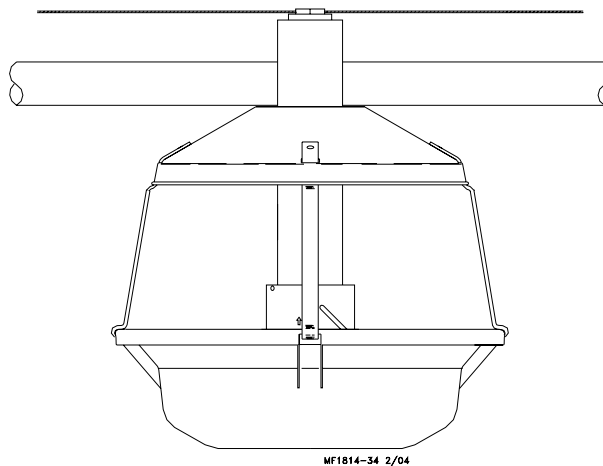

Figure 22. Install Feeders on Tubes
For feeder lines over 350 feet (106 m), install a 2985 Cable Hook between the mounting bolt and Power Winch frame, as shown in Figure 22.
- Rotate the feeder Tube so that the tab at the outlet hole will pass through the notch in the Drop Tube. Rotate the tube 180 degrees to lock the pans in place, see **figure 22**. Make sure outlet holes are down.